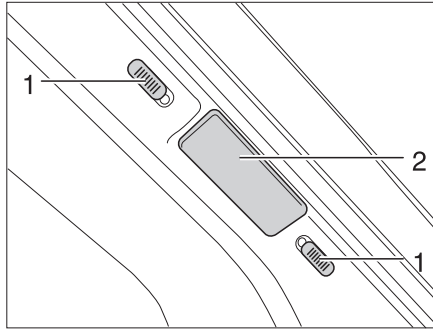

Fig. 17 Lock for the Roman shade of the windscreen
- Use the handle (Fig. 17,2) to pull the two halves of the Roman shade for the windscreen outwards as far as they will go.
- Push the locking knobs (Fig. 17,1) upward or downward.